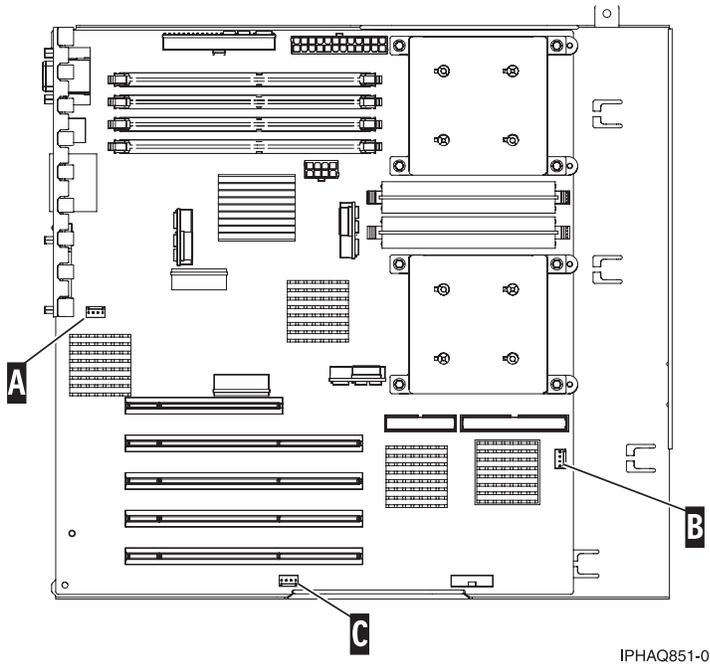

Figure 17. Fan power connector locations
6. Plug in the fan power connector see, Figure 17 on page 17 for connector location on system board.
4. Plug in the fan power connector see, Figure 17 on page 17 for the connector location on the system board.
5. Plug in the fan power connector see, Figure 17 on page 17 for the connector location on the system board.